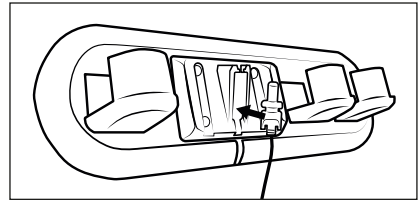

Fig. 4
- 1) Remove the wall bracket **17** from the accessories holder **16**. Insert the barrel plug **10** of the mains adapter **9** into the wall bracket **17** as shown in the illustration below. Secure the barrel plug **10** by turning it (see Fig. 4).